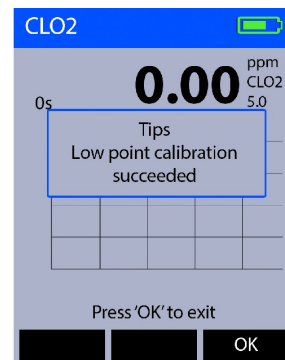

Figure 12.
8. The message “Low point calibration succeeded” will appear on the display (Figure 12).